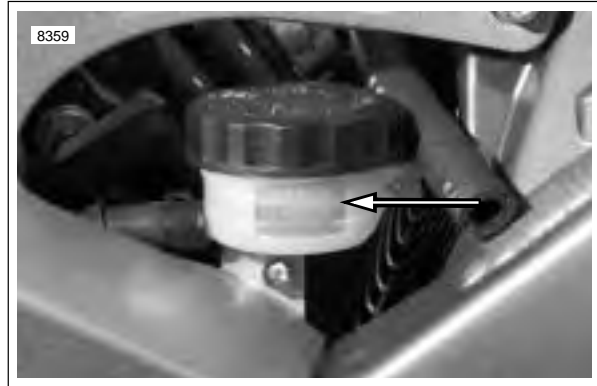

Figure 2-63. Rear Reservoir
5. See Figure 2-63. Verify proper fluid level in reservoir.